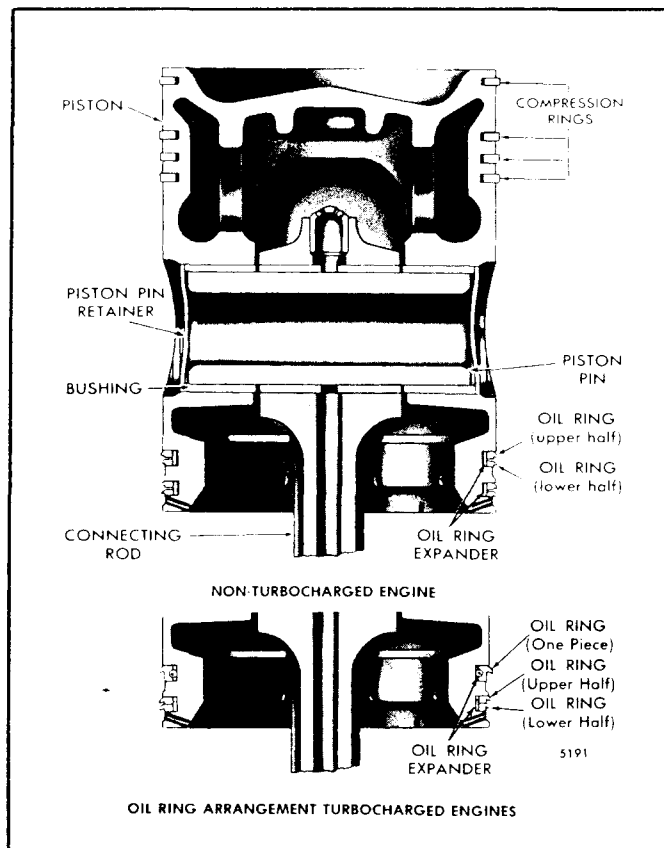

Fig. 1 - Typical Piston Assembly
The trunk type malleable iron piston (Fig. 1) is plated with a protective coating of tin which permits close fitting, reduces scuffing and prolongs piston life. The top of the piston forms the combustion chamber bowl and is designed to compress the air into close proximity to the fuel spray.
Each piston is fitted with six piston rings. Four compression rings are placed above the piston pin and two oil control rings are placed below the pin to scrape off the excess lubricating oil thrown onto the cylinder liner by the crankshaft and the lower end of the connecting rod. Two piece oil control rings are used in both the upper and lower positions on the piston for non-turbocharged engines. On turbocharged engines, a one piece oil control ring is used in the upper position (Fig. 1) and the two piece ring is used in the lower position.
6. Refer to Figs. 1 and 2 in Section 1.6.1 and remove the bearing cap and the lower bearing shell from the lower end of the connecting rod; then push the piston and rod assembly out through the top of the cylinder block. The piston and rod cannot be removed from the bottom of the block.